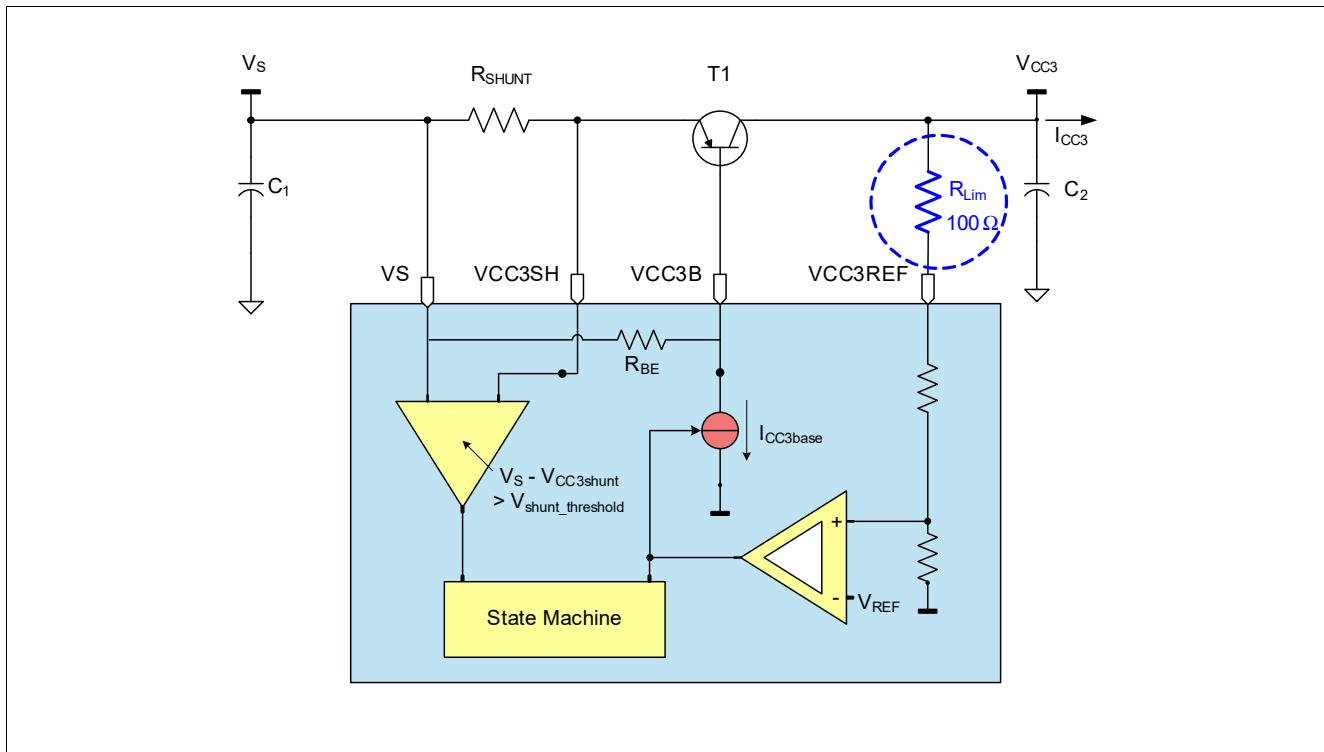

Figure 24 Protecting the VCC3 against inductive short circuits when configured as an independent voltage regulator for off-board supply
3. If the VCC3 output voltage is supplying external off-board loads, the application must consider the series resonance circuit built by cable inductance and decoupling capacitor at the load. Sufficient damping must be provided (e.g. a 1000Ohm resistor between the PNP collector and VCC3REF with 10uF capacitor on collector - see also Figure 24).